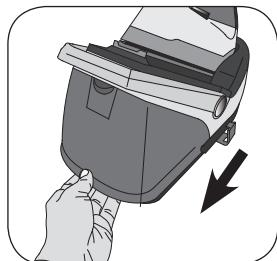
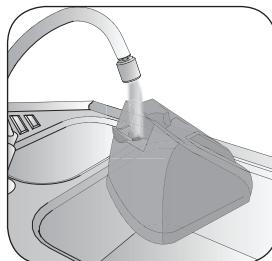

Fig. 5
Fig. 6
Press the removal lever (A) and remove the tank (D) (Fig. 5). Open the door filling (E). Fill the tank up to the level marked MAX (Fig. 6). Close the cover (E) again.
If the tank remains without water, you will notice a vibration and a louder noise when you press the steam button. Turn the control knob on MIN and unplug the appliance from the mains socket to turn it OFF. Remove the tank. Remove the tank (Fig. 5) and open it directly with fresh natural tap water (Fig. 6).